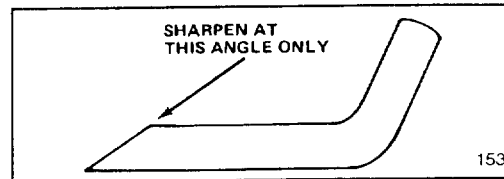

Figure 30
6. SHARPENING BLADE—Using a file, sharpen top side of blade and maintain original cutting angle (Fig. 30). The blade will remain balanced if same amount of material is removed from both cutting edges.